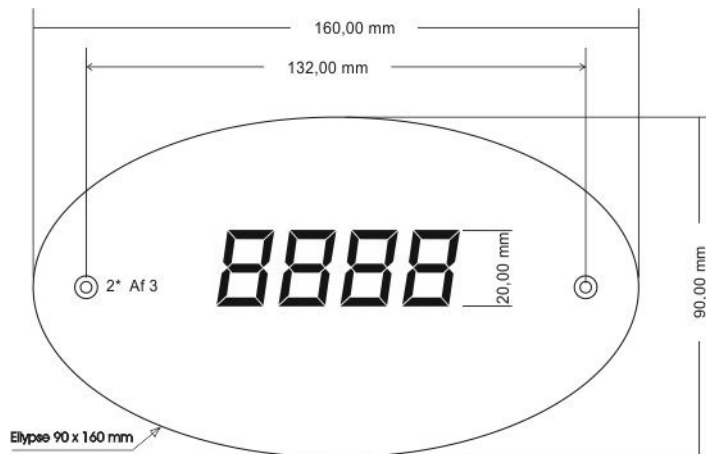

Figure 8: Dimensions of interior display
4. Connect the signal cable to the board as per the circuit diagram given in figure 8.